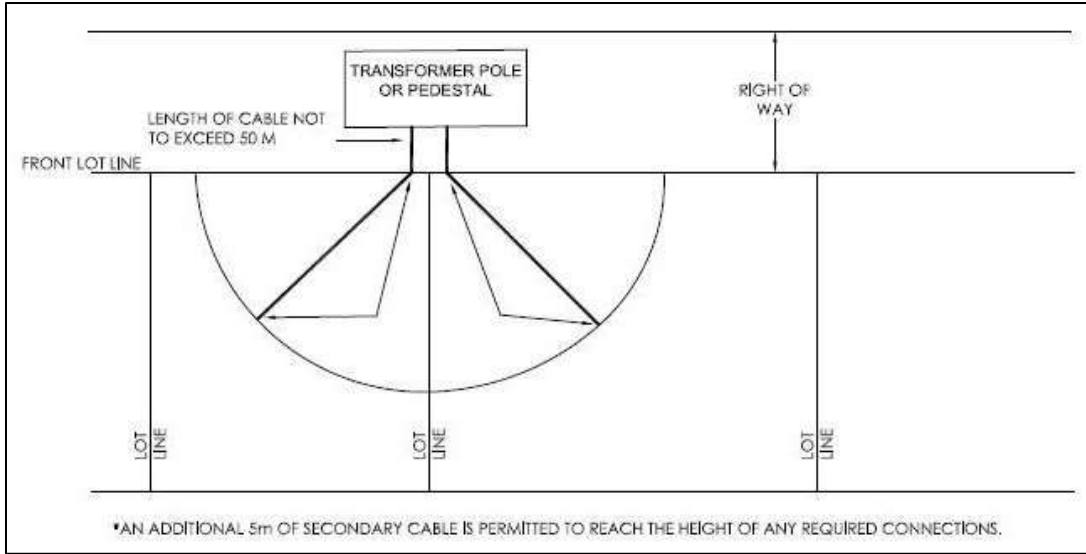

Figure 2.2.1: Meter Locations, 50 m – 75 m Guideline
1. The meter must be located between 50 to 75 meters from the front property line or EQUUS service transformer located on the Member's property (reference Figure 2.2.1: Meter Locations, 50 m – 75 m Guideline).